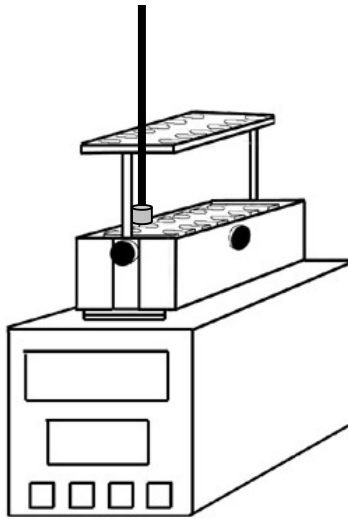

Figure 5. Terminus in the curing oven.
- Step 15 - Place the cure adapters in the curing oven, and position the cable vertically over the oven using the cable stand, see figure 5. Cure the epoxy, with the programmable oven, using the curing schedule specified by the adhesive system manufacturer. (NOTE: When the cable is positioned above the terminus, make sure that no bends are placed in the simplex cables. Each simplex cable should enter the terminus parallel to the terminus. Be sure no fiber cable pull back has occurred.)